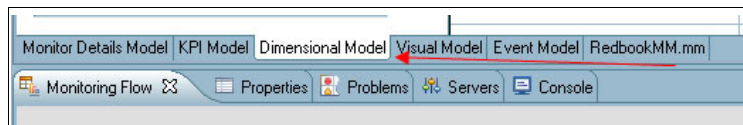

Figure 8-68 Dimensional model
1. Move to the Dimensional Model. See Figure 8-68.